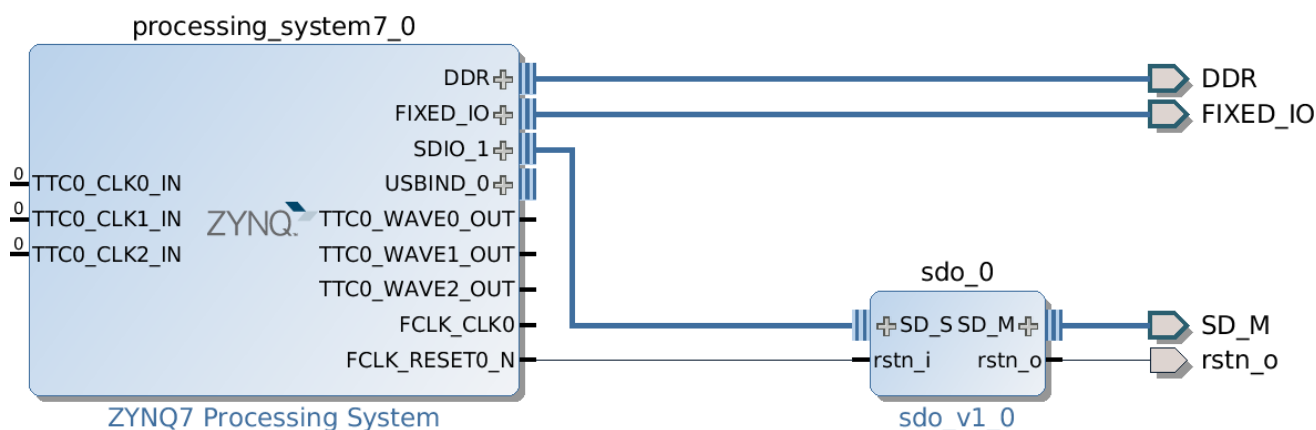

Figure 1: Interface of the second ZYNQ SDIO controller implemented in the ZYNQ FPGA fabric for 4-bit to the eMMC memory on ZC702 board.
To implement pass-through logic between second SDIO controller of the ZYNQ and externally located flash memory was used Xilinx Vivado 2013.4 tool. The block diagram of it is shown in Figure 1.
- SDIO\_1 connected via the FPGA fabric of ZYNQ xc7z020-1 ES part (see Figure 1) via the FMC1 connector to FMC XM105 Debug board and via the PCB to the eMMC memory MTFC32GJWDQ-4M.